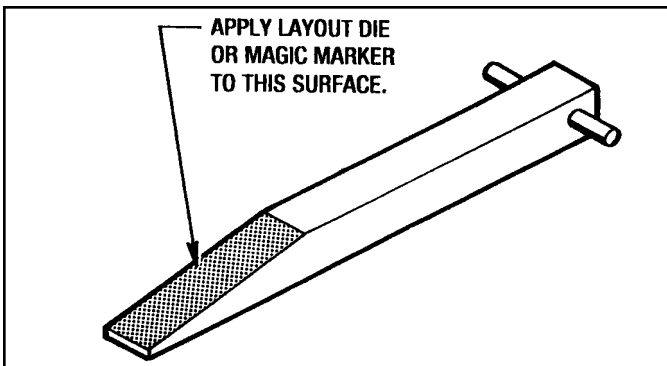

Figure 9.13 - Gap Tool
To measure the Piston Stroke a Gap Tool, as shown in Figure 9.13, must be used. To order this Gap Tool from the Force Control factory use the following Part Numbers:
3. Apply machinists fast drying layout die or (use a black magic marker) to the sloping surface of the Gap Tool as shown in Figure 9.13.